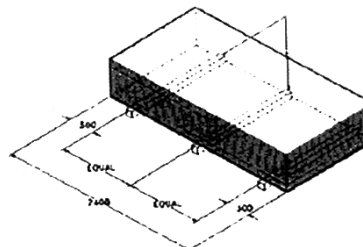

Fig. 1 Ensure that the gluts run the full pack width
- Bearers or gluts must be of uniform thickness and must extend across the full width of the stack. See Fig 1.